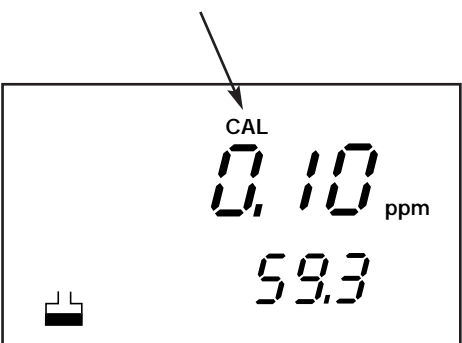

Figure 32
4. Press **CAL** to enter the ion calibration mode. The **CAL** indicator appears above the primary display and primary display reads " 0.10 " —See Figure 32.